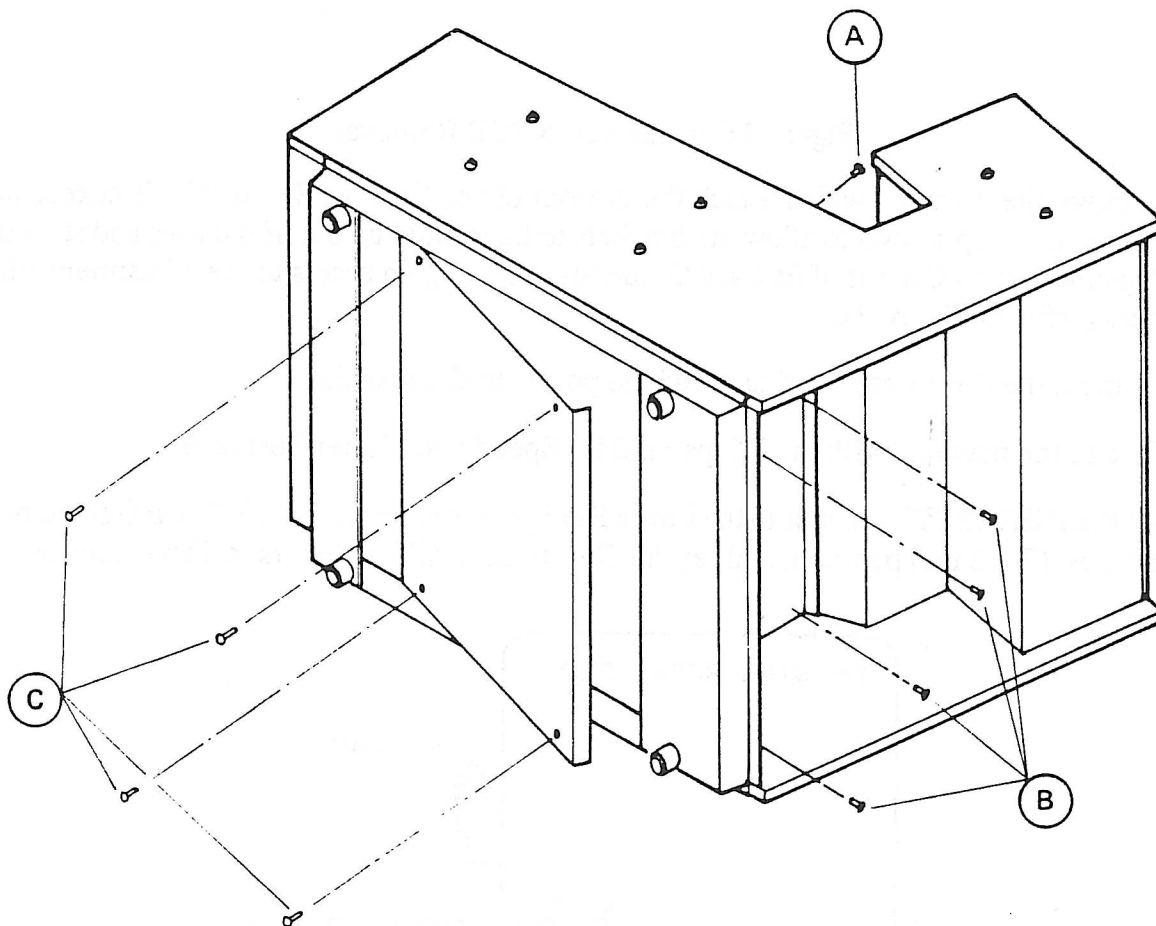

Figure 4 Opening the Transport
1. Lay the machine on its left side (as shown in Figure 4) so that the left (Supply) reel can rotate freely when an empty reel is mounted.
2. Remove the 4 screws marked "C" in Figure 4, and swing the bottom panel out.